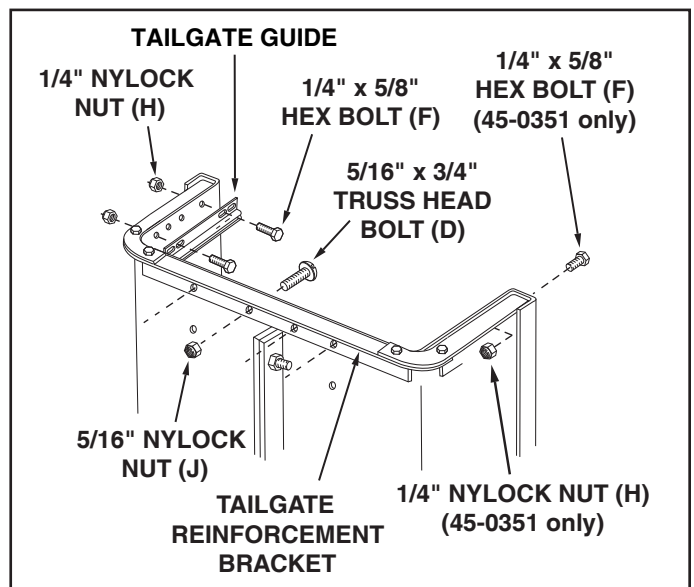
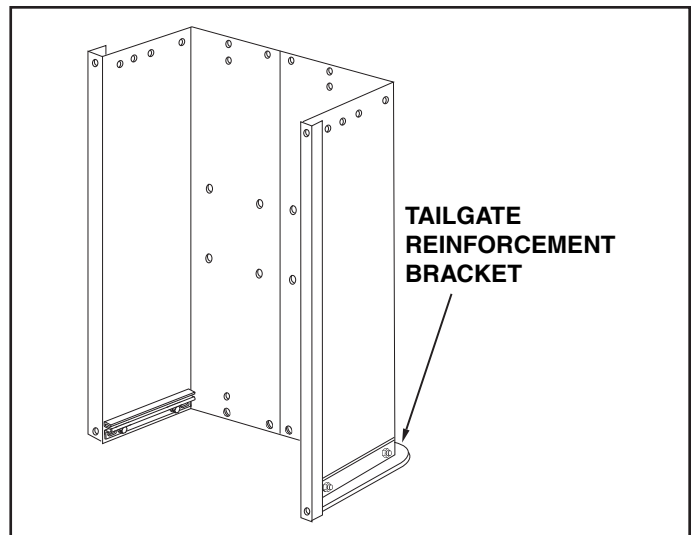

FIGURE 2
FIGURE 3
5. Position the tailgate reinforcement bracket on outside of cart as shown in figure 3. Assemble to the bottom of the cart body using four 5/16" x 3/4" truss head bolts (D) and 5/16" nylock nuts (J). **Do not tighten yet.** See figure 2.
6. Position the tailgate guides on the inside of the cart bodies with guide channels to the front. Assemble using four 1/4" x 5/8" hex bolts (F) and 1/4" nylock nuts (H). **Do not tighten yet.** See figure 2.
7. **(45-0351 only)** Fasten the ends of the tailgate reinforcement bracket to the top flange of the cart using two 1/4" x 5/8" bolts (F) and 1/4" nylock nuts (H). See figure 2.
9. Carefully turn the cart over so that the tailgate reinforcement bracket is on the bottom. See figure 3.